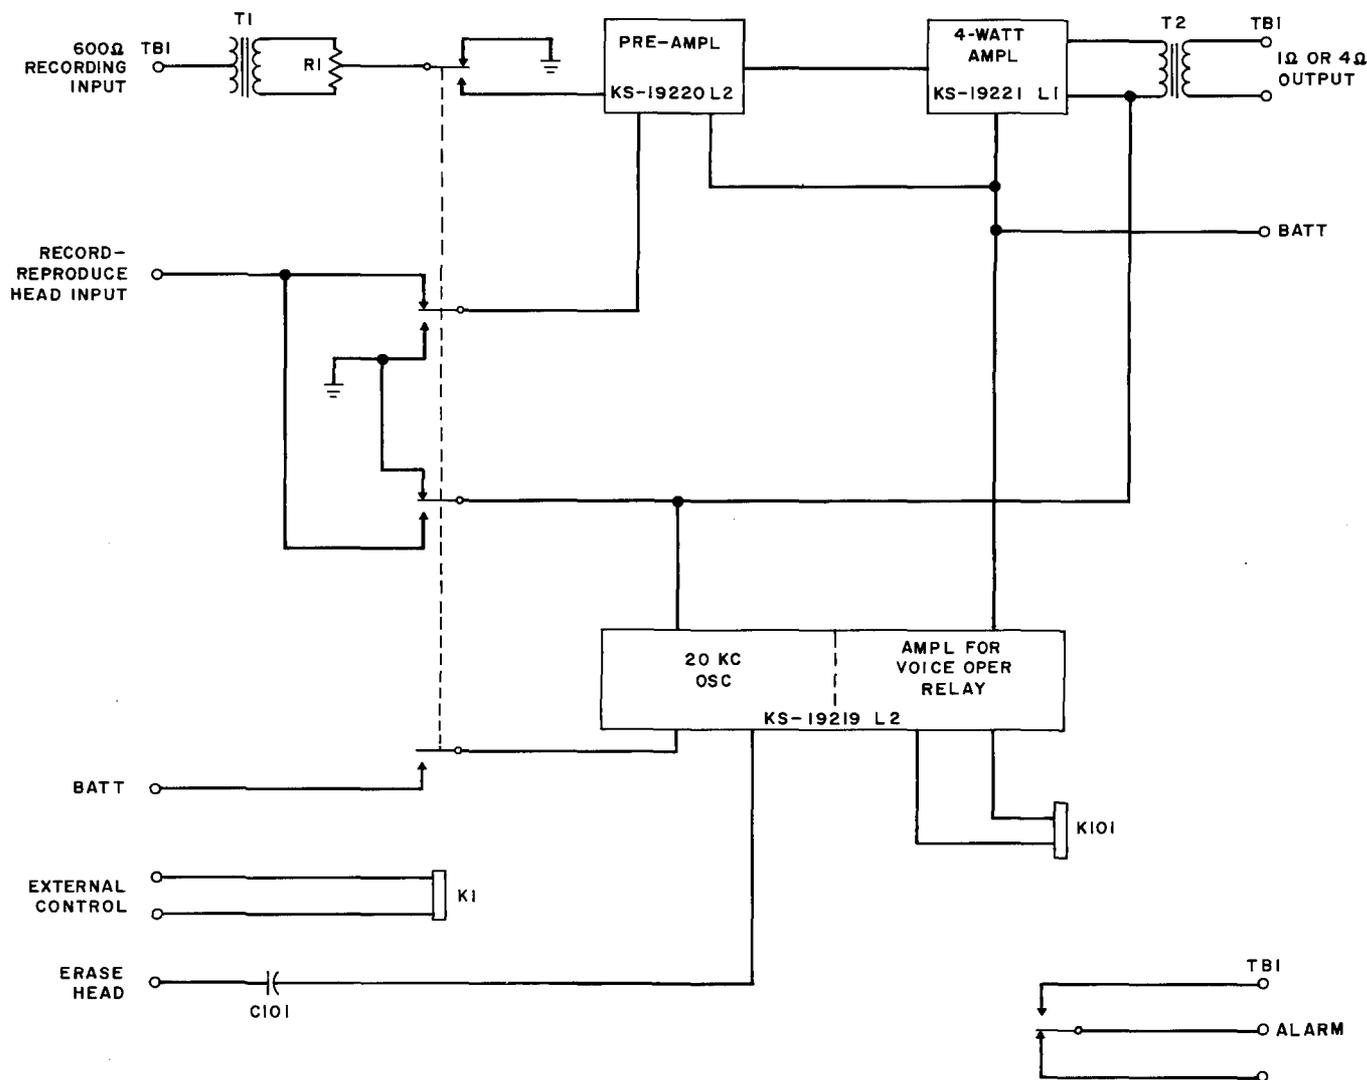

Fig. 3 — Simplified Schematic of Amplifier
5.02 During the reproduce cycle, as shown in Fig. 3, relay K1 is released. The input signal is fed through the relay contact to the preamplifier. The output of the preamplifier is connected through a coupling network to the output amplifier. During the reproduce cycle, the K1 relay also grounds the output of the record channel to prevent interaction between it and the reproduce channel. The relay also disables the oscillator by disconnecting its battery supply.